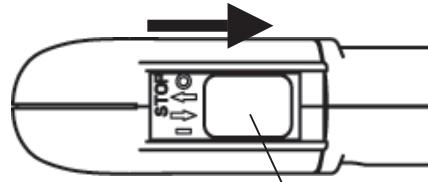

Figure 1
- Set the stop switch to "I" position (Figure 1).